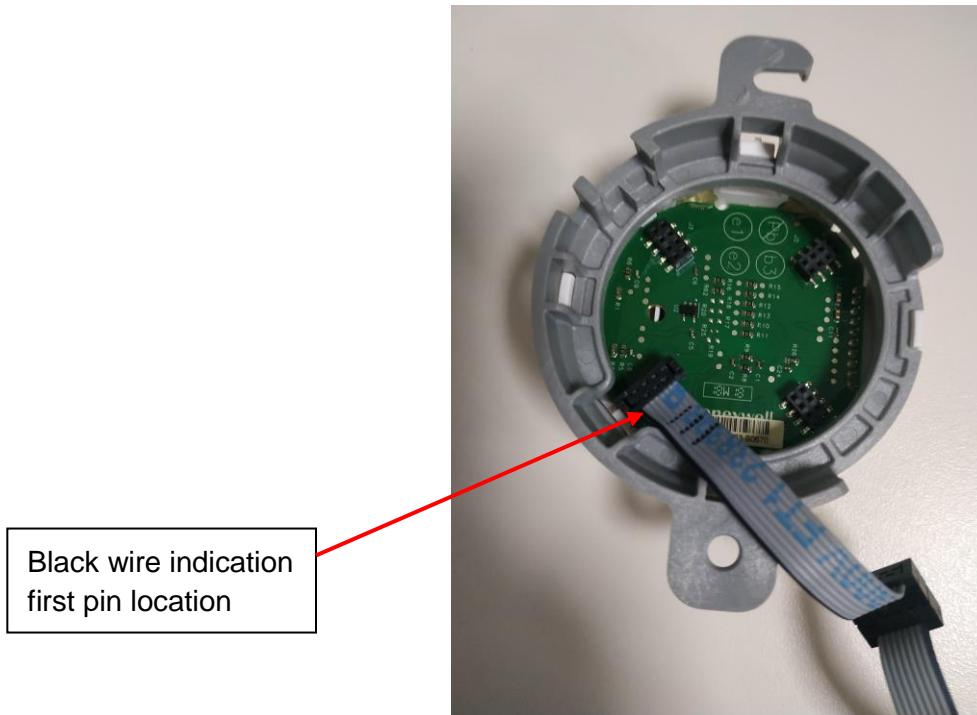

Figure 6: Short cable and display assembly
C) Connect the shorter cable connector to the display module at the indicated location. Ensure that the first pin of the cable connector (indicated with the black colored wire) matches with the first pin of the display connector (indicated with white spot). Refer Figure 6.